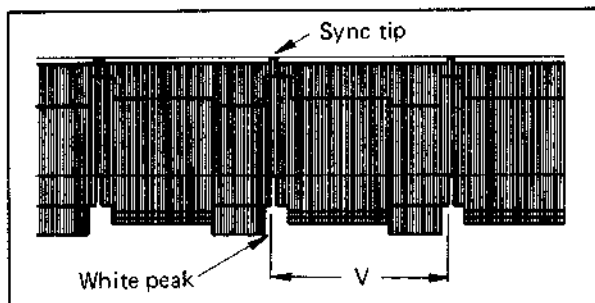

Fig. 5-25 Demodulator
2. Adjust R63 (LIMITER BALANCE) of the Y & COLOR board to obtain general overlapping from the sync tip to white peak. See Fig. 5-25.